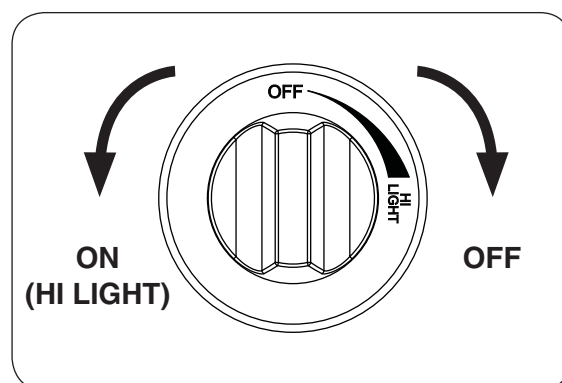

Fig. 25-2
4. **Once the match is burning and in position**, depress the gas control knob and turn it counter-clockwise to the **HI LIGHT** position (see Fig. 25-2). Your burner should light.
To extinguish your gas burner, depress the gas control knob and turn it clockwise to the **OFF** position (see Fig. 25-2). Be sure the control knob is turned fully off to avoid any gas leakage.